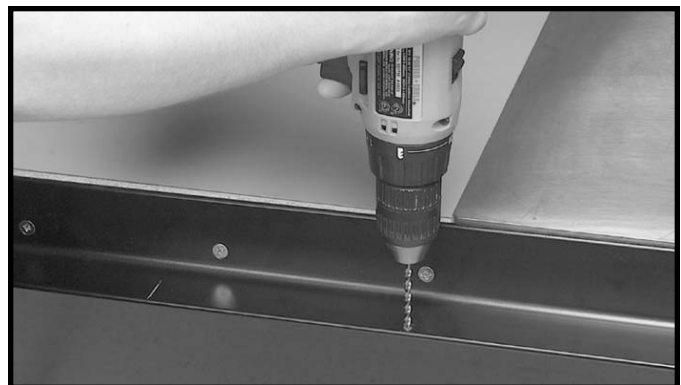

Fig. 107
5. Use a $\frac{3}{16}$ " drill bit to drill the two holes in the rear rail, approximately $7\frac{1}{2}$ " from each corner of the table board, Fig. 107 & 108 (marked in step 4).